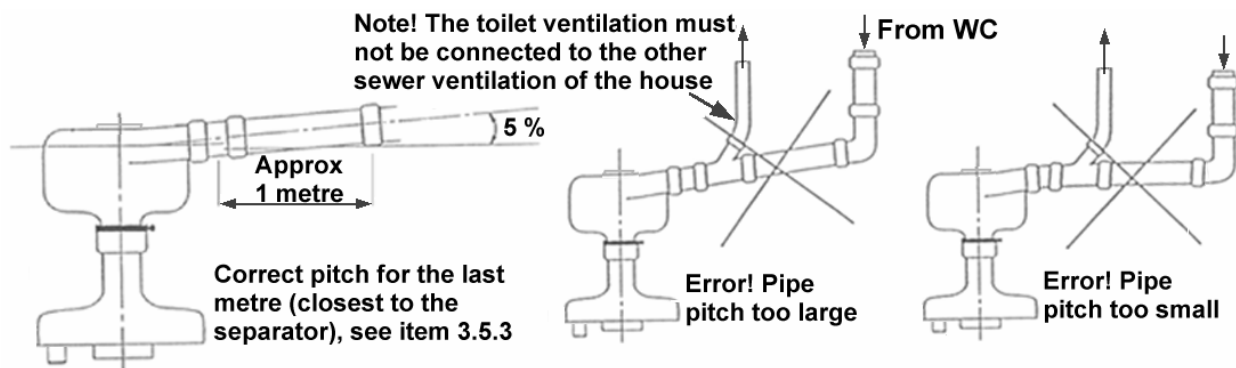

Figure 7: Pitching of inlet pipe from WC to Separator
- 4.5.3 The horizontal distance between the WC and the Separator must be minimum 1 metre and that last metre (closest to Separator) should be pitched at 5% (5 cm), see Figure 7. At further distances the earlier part of the pipe should have a 1% horizontal slope, or as national standards. If needed, use the special angled coupler double socket in order to achieve the pitch transition, see Figure 8.